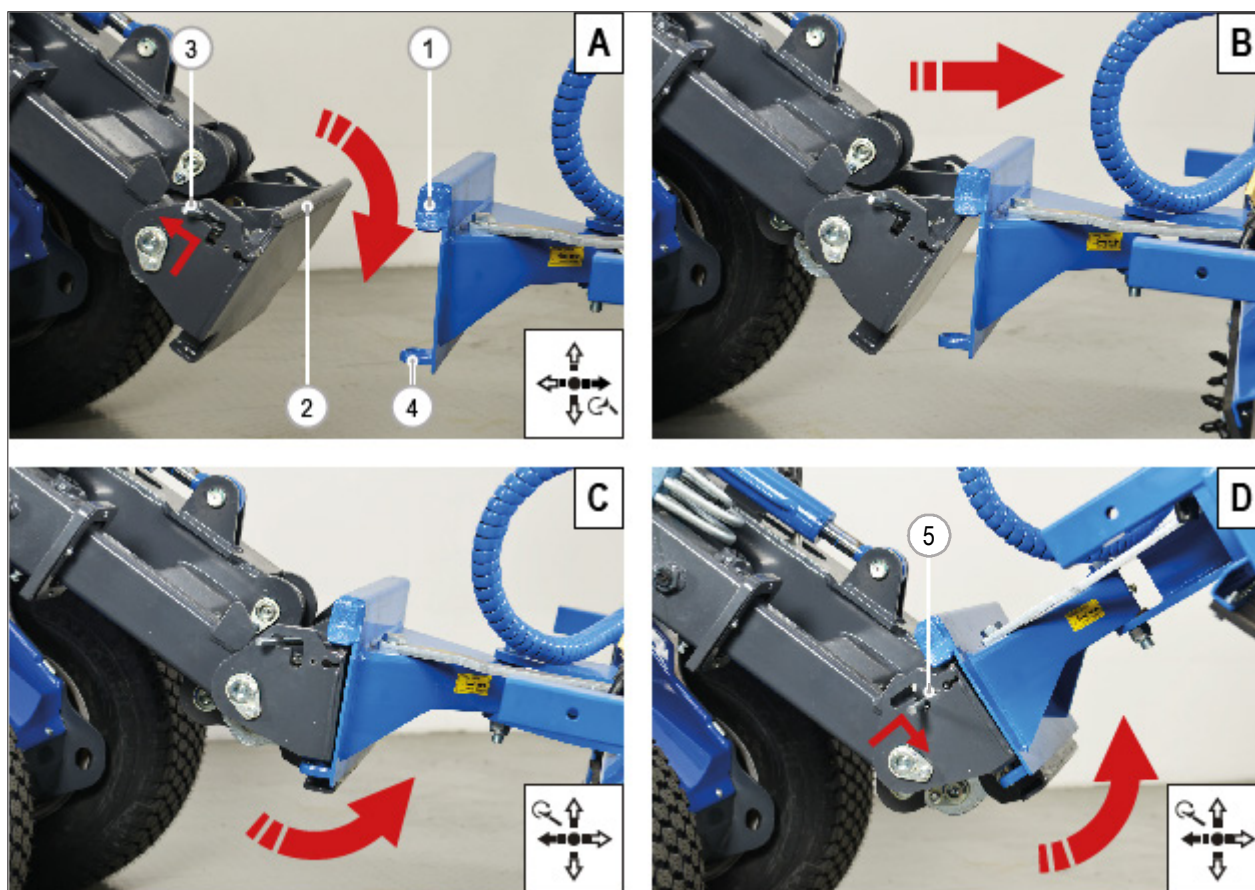

FIG. 31
- 6) Lift and push back the two levers (**FIG. 31 - Ref. 3**) placed on the quick coupler, in order to raise the hook plugs.
- 8) Operating carefully draw up the quick coupler to one of the attachment so as to go up the upper round profile (**FIG. 31 - Ref. 2**) in their curved seats of the attachment (**FIG. 31 - Ref. 1**).
- 9) Move slowly the multifunction joystick to the left, in this way the quick coupler leans backward, continue after lifting of a few centimetres the quick coupler and automatically the coupling system closes allowing the two plugs to fit in the seats of the attachment (**FIG. 31 - Ref. 4**).
- 10) Check visually the two levers (**FIG. 31 - Ref. 5**) are in low position. If not, it means the coupling was not successful.
- 4) Operating carefully draw up the quick coupler to one of the attachment so as to go up the upper round profile (FIG. 31 - Ref. 2) in their curved seats of the (FIG. 31 - Ref. 1) attachment.
- 1) Lift and push back the two release levers (**FIG. 31 - Ref. 3**) from the quick coupler in order to disengage the two plugs.